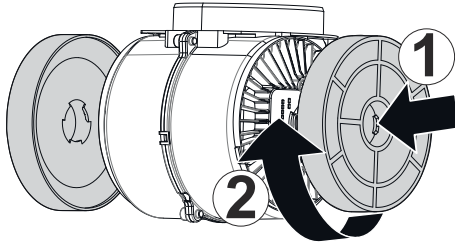

Fig. 6
- 1-Place the carbon filter in its housing.Fig. 6
- 2-Rotating the carbon filter clockwise, ensure that it is completely fit.Fig. 6